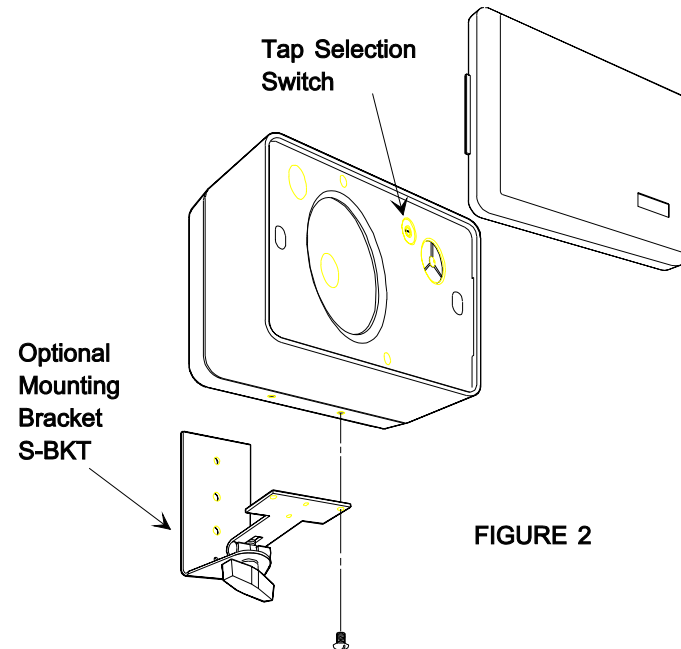

FIGURE 2
Insert one stripped wire of input to (+) and the other to (-). Secure stripped wires by turning the screws on the terminal block. Each terminal will accept 18 to 24 gauge speaker wire. Adjust volume by selecting appropriate tap setting (See Fig. 2 for location).
- The unit can be mounted to an optional mounting bracket, (S-BKT). This bracket can then be secured to a surface. The bracket is attached to the speaker brass inserts with screws provided. (Figure 2)